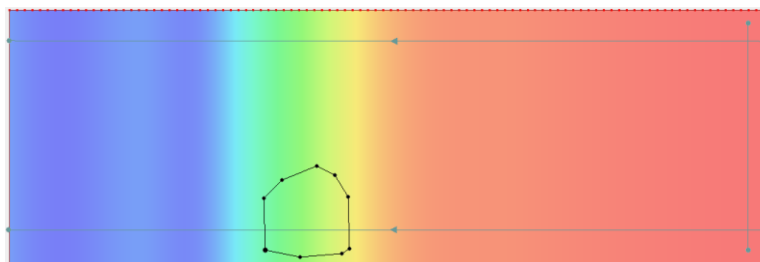

Figure 8 Area with different roughness
- Using the **Create Feature Arc**  tool, click out a polygon enclosing an area with different roughness, as shown in Figure 8. The polygon does not have to be exactly the same as shown in Figure 8, but should cover a similar area.